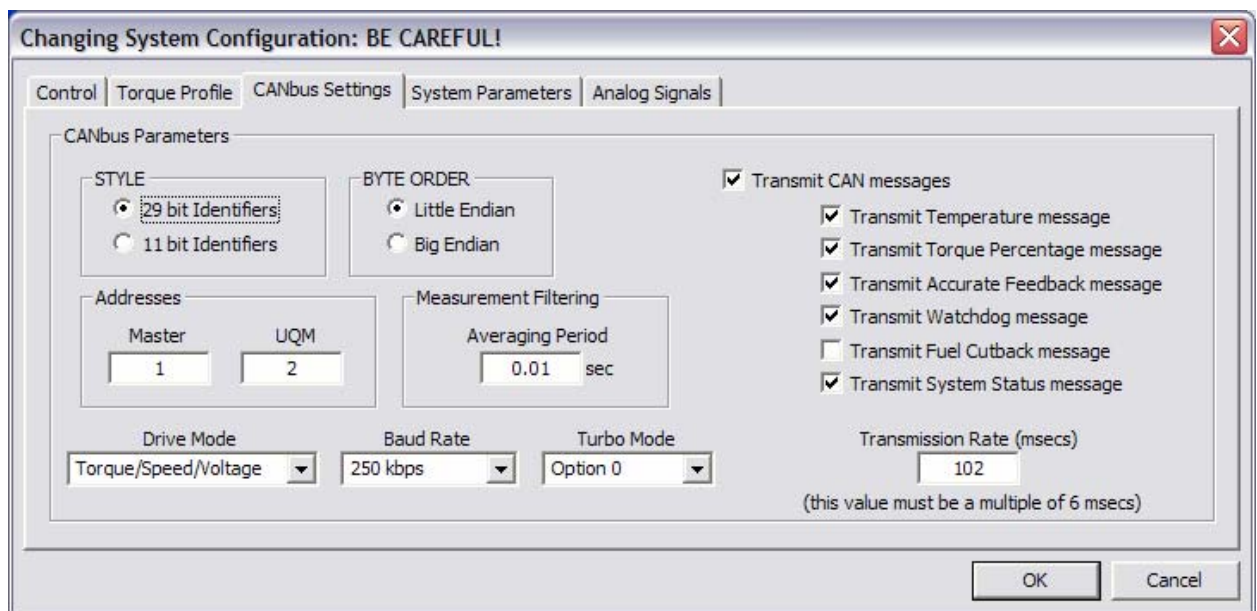

Figure 1.2 – System Configuration *CANbus* Tab
4. Select the *CANbus Settings* tab in the System Configuration dialog (Refer to Figure 1.2)
The default option is selectable in the System Configuration (See Figure 1.2). Sending a CAN command change will override this initial Turbo mode setting.
2. Set *Drive Mode* (on *CANbus Settings* tab) to *Torque / Speed / Voltage* (Refer to Figure 1.2)